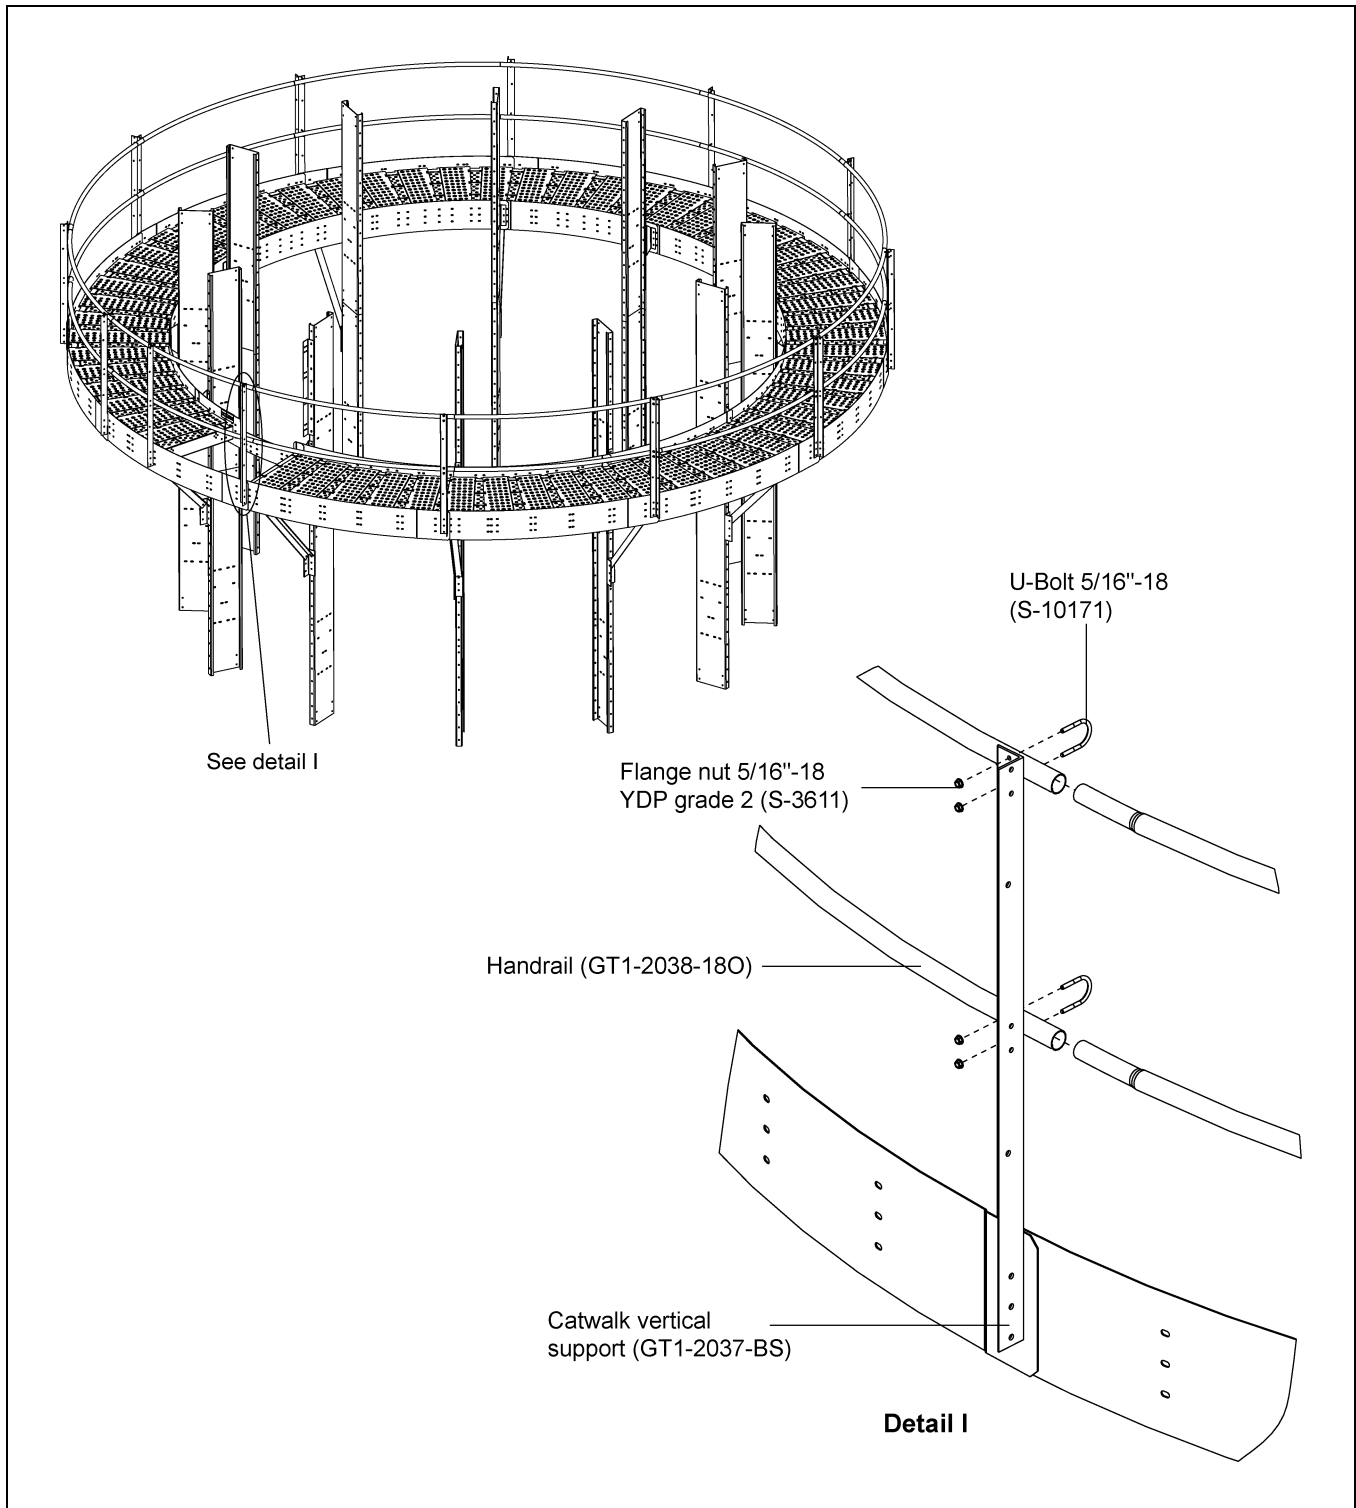

Figure 4T
1. Install the handrail (GT1-2038-180) to the catwalk vertical support (GT1-2037-BS) using 5/16"-18 ZN U-bolts (S-10171) and 5/16"-18 YDP grade 2 nuts (S-3611) to tighten the handrail with vertical post. (See Figure 4T.) (See Page 22.)